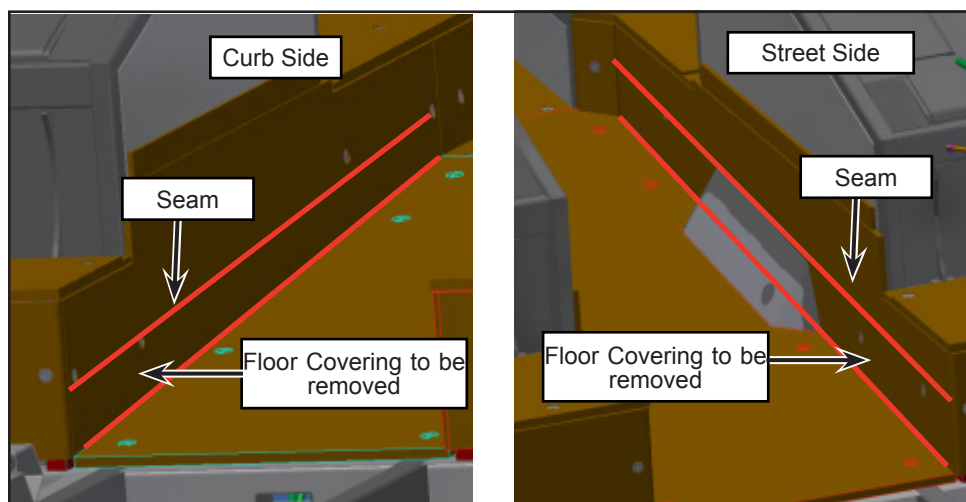

Figure 6 - Removal of Plywood on Street Side and Curb Side wall
- 2.18. Remove the plywood on street side and curb side wall (see Figure 6). Make sure to cut the plywood 5 mm below the existing seam on the floor liner.